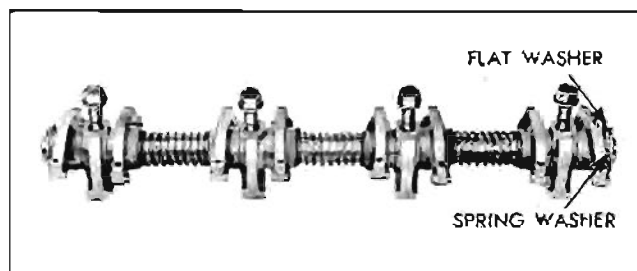

Fig. 6-81 Rocker Arm Shaft Assembly
1. Assemble rocker arm shaft assembly as shown in Fig. 6-81.